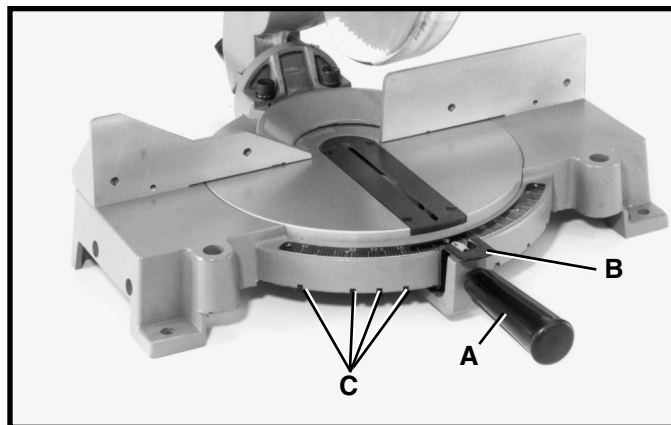

Fig. 14
Your compound miter saw will cut any miter angle from a straight 90 degree cut-off to 47 degrees right and left. Simply loosen lock handle (A) Fig. 14, depress index lever (B) and move the control arm to the desired angle. Then tighten lock handle (A).
The 10" Compound Miter Saw is equipped with positive miter stops for the table control arm at the 0, 15, 22-1/2, 30 and 45 degree right and left positions. Simply loosen lock handle (A) Fig. 14, and move the control arm until the spring loaded index lever (B) engages into one of the positive stops (four of which are shown at (C)). Then tighten lock handle (A). To disengage the positive stop, depress index lever (B). **IMPORTANT: ALWAYS TIGHTEN LOCK HANDLE (A) BEFORE CUTTING.**